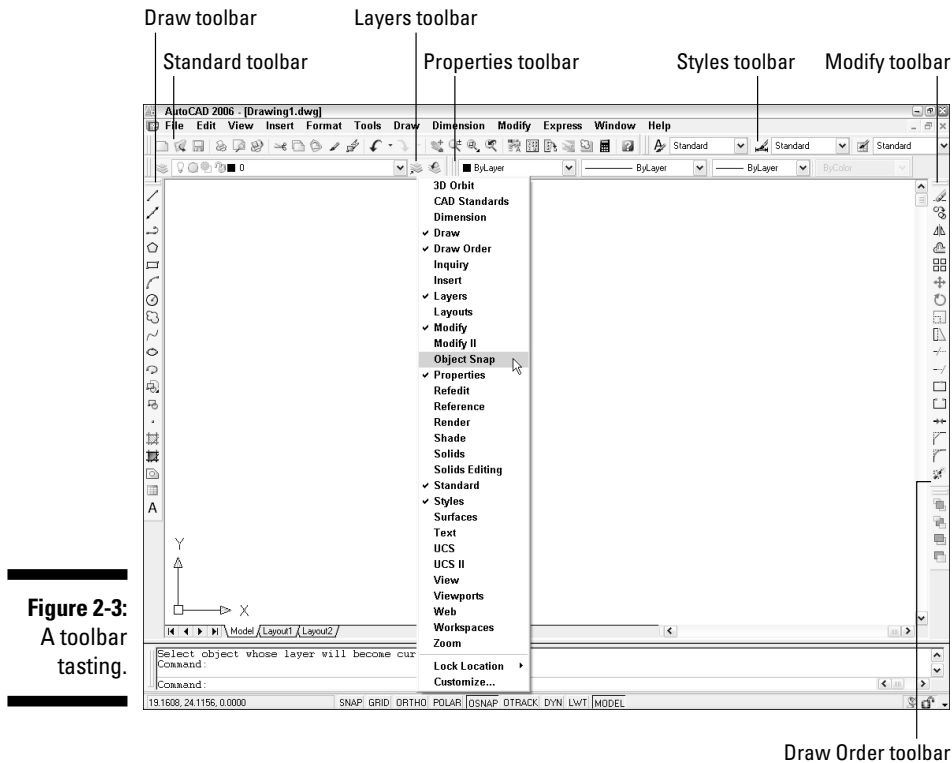

Figure 2-3:
As in other Windows programs, the toolbars in AutoCAD provide rapid access to the most commonly used AutoCAD commands. AutoCAD 2006 ships with toolbars in this default arrangement (as shown in Figure 2-3):
- ✔ To open or close toolbars, right-click on any toolbar button and choose from the list of available toolbars, as shown in Figure 2-3.
The AutoCAD screen in Figure 2-3 shows the default toolbar arrangement, which works fine for most people. Feel free to close the Draw Order toolbar; you aren't likely to use its features frequently. You may want to turn on a couple of additional toolbars, such as Object Snap and Dimension, as you discover and make use of additional features. Throughout this book, we point out when a particular toolbar may be useful.